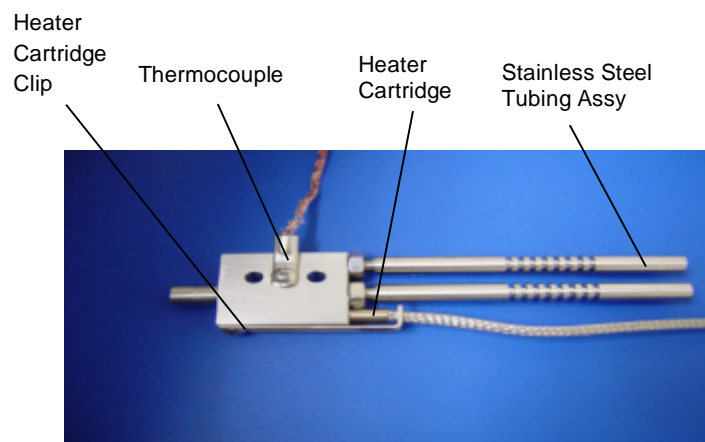

Figure 9.2 Heated Sonicaire Nozzle Setup
9.4.1 Heating (Refer to figure 9.2)
The Sonicair Nozzle has no replaceable parts. Please contact IVEK Sales for information on ordering replacement Sonicair Nozzles. The following optional parts are available as shown in Figure 9.2.